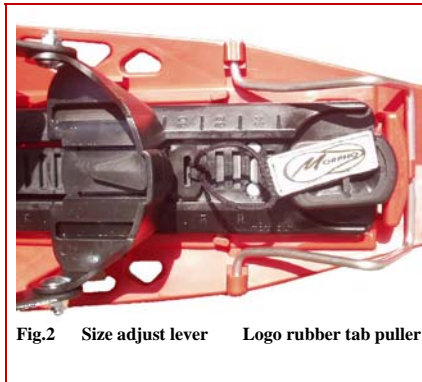
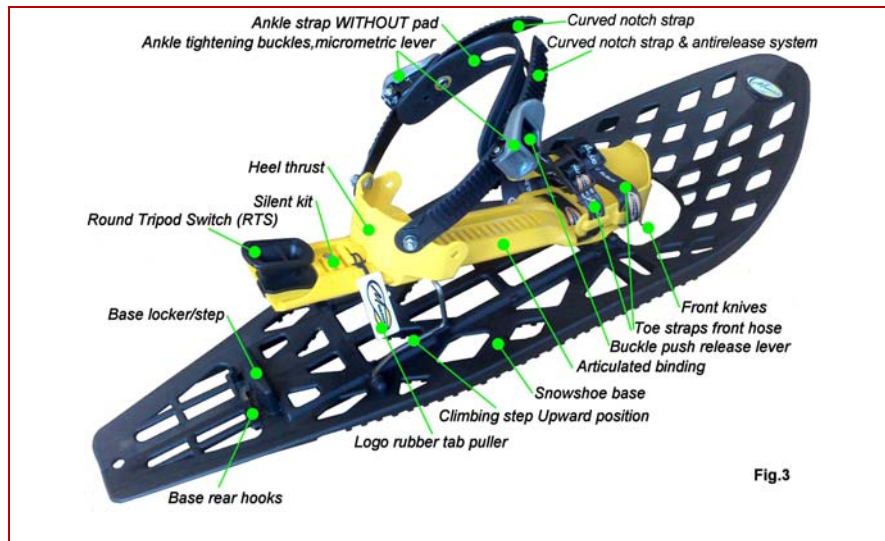

Fig.2 Size adjust lever Logo rubber tab puller
Fig.3
1. Untighten **ankle strap** (by loosening completely one of the **two notch straps** from one of the **two buckles** of the strap) as well as the **2 toe straps** so as to insert your boots and to adjust the **heel thrust of articulated binding** plate to your boot size. See Fig.3
3. Adjust the heel thrust to the proper size of your boot using the Morpholock system. See Fig.2:
6. **Snowshoeing:** keep **articulated binding plate free** from snowshoe base when going flat, traverse, uphill or downhill: the **RTS** unlocked from base locker/step in all cases. The articulated binding must **lay flat** on the snowshoe base or **stepping** on the extra high **metallic climbing step** when climbing steep slopes: for this purpose rotate the **climbing step** forward in its upwards position (fig.3) from its idle position (fig.2) with your gloves.
7. **After use, untighten ankle strap** first: push on the **release levers**(black) of the ratchet buckles(grey) and pull out the ankle strap from one of the notch straps(the one without antirelease system) while keeping pressure on the **buckle push release lever**. Then untighten the 2 toe straps: pull up the ends of the quick buckles and loosen the webbings. See fig 3. Remove your boot. **To store** the snowshoe push the articulated binding on the base and lock it to the base by **rotating the RTS** so as to **insert it into the base locker/step**. See fig.2
When rotating backward metallic climbing step to its idle position make sure to fully push it down until it is blocked by the 2 snowshoe base **rear hooks**. (fig.2)